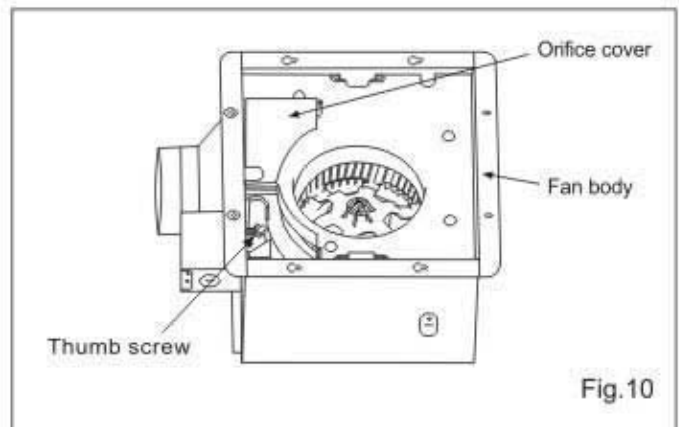

Fig.10
- Before installation, open the orifice cover secure fan body to adaptor using thumb screw. (Fig.10)
1. Before installation, secure adaptor to fan body using thumb screws. (Fig.10 of page 8)